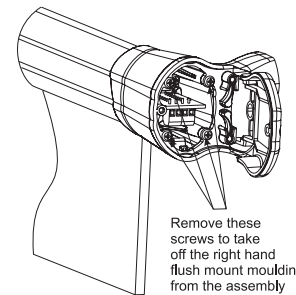

Fig 1-6 Removing the Right Hand Flush Wall Moulding
- 5) Remove the flush wall mount moulding from the end moulding by unscrewing the 4 screws visible under the cover See Fig 1-6.